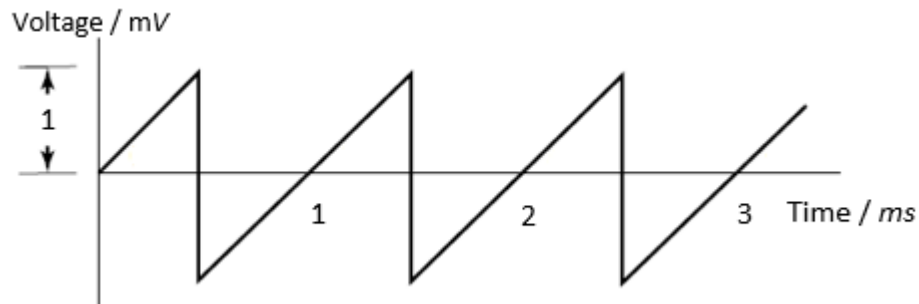

Figure 2[a]
2. [a] Figure 2[a] shows an electrical signal resembling a sawtooth wave.